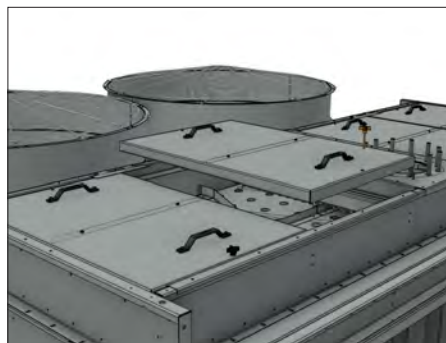

Figure 8. Hot Water Basin Cover Removal
The hot water basins are located on the fan deck. The system water enters the cooling tower through the hot water basins (refer to **Figure 8**). A series of nozzles, which distribute water over the fill, are located in the hot water basin. There are four materials of construction for the hot water basin: Galvanized steel, Thermosetting Hybrid Polymer, Type 304 stainless steel and Pultruded Fiberglass Reinforced Polyester (PFRP).
- To remove the covers turn the knobs to remove the threaded studs (**Figure 8**). Then, lift the hot water basin covers vertically by using the attached handles. Once the hot water basin covers are removed, the nozzles may be cleaned.